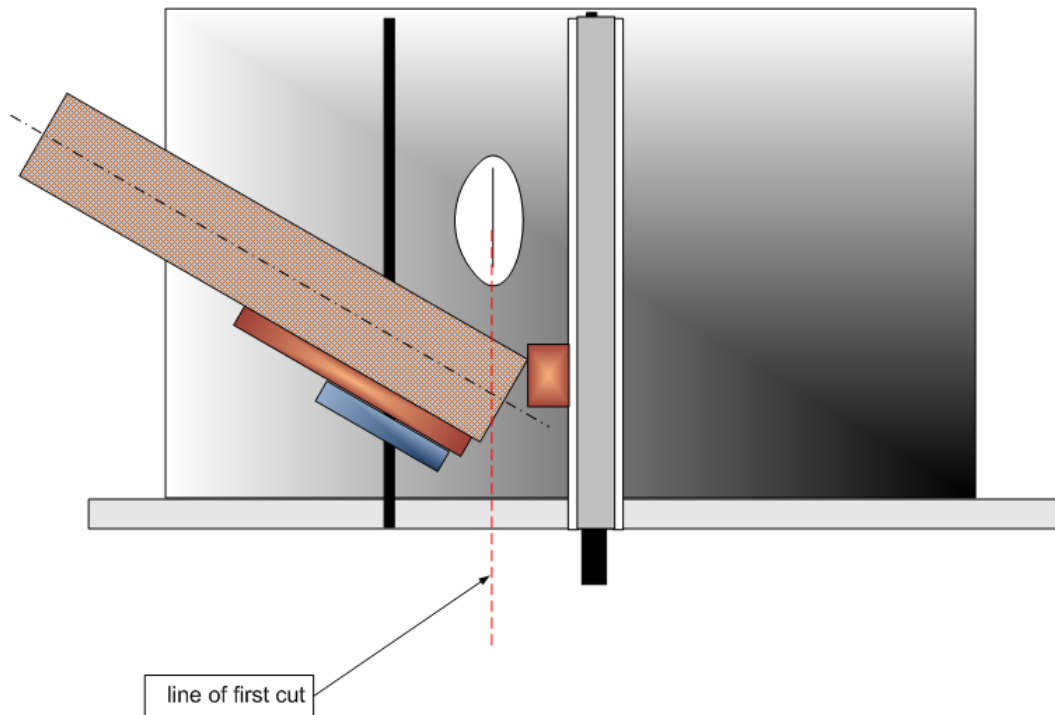

Figure 4. Setup For First Cut
Step 3. The stock cut to width $2r$ and length at least $2R$ is positioned for the first cut as shown in Fig. 4. Note that the cut line (left side of saw kerf) should pass through the right end of the stock somewhere between the center of the stock and the opposing edge.